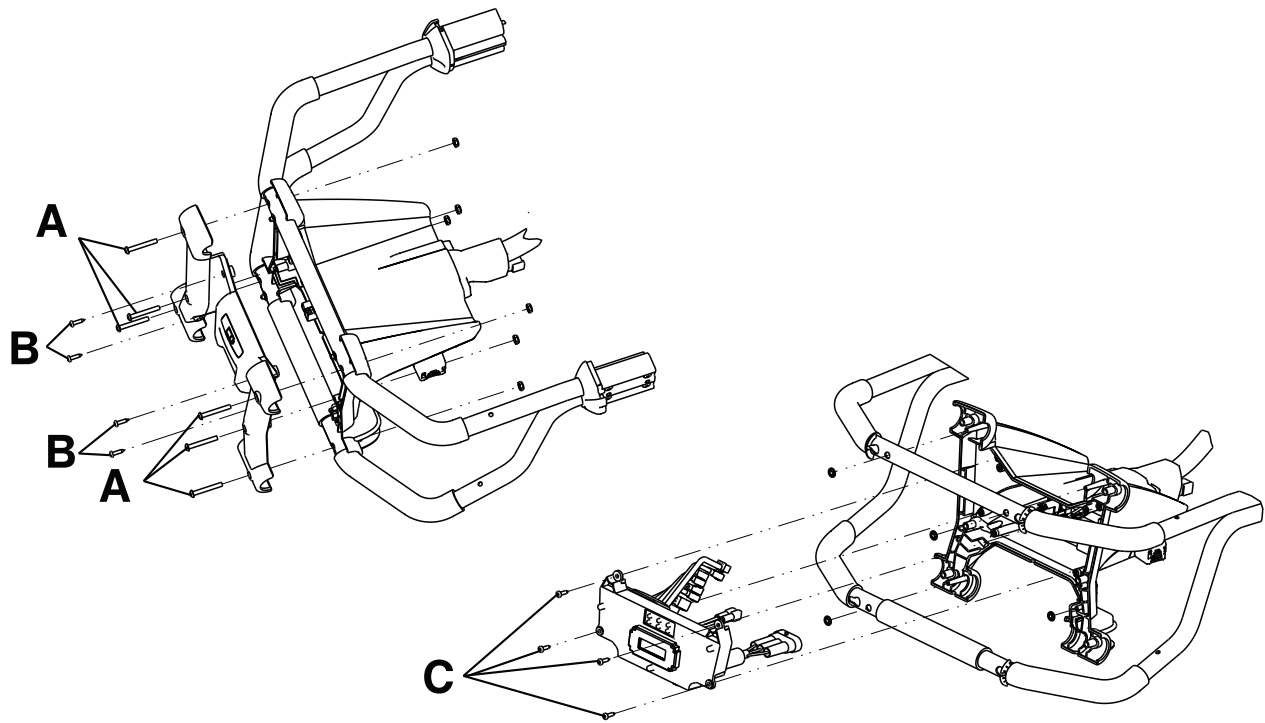

Figure 19 – Terminal block replacement
3. Using a T25 Torx driver, remove the six outer button head cap screws (A) from the face plate (Figure 19). Save the screws.
4. Using a T20 Torx driver, remove the four inner delta screws (B) from the face plate to remove the face plate (Figure 19). Save the screws and face plate.
5. Using a T20 Torx driver, remove the four delta screws (C) that secure the electronics assembly to the foot end enclosure and pull the electronics assembly out (Figure 19). Save all parts.